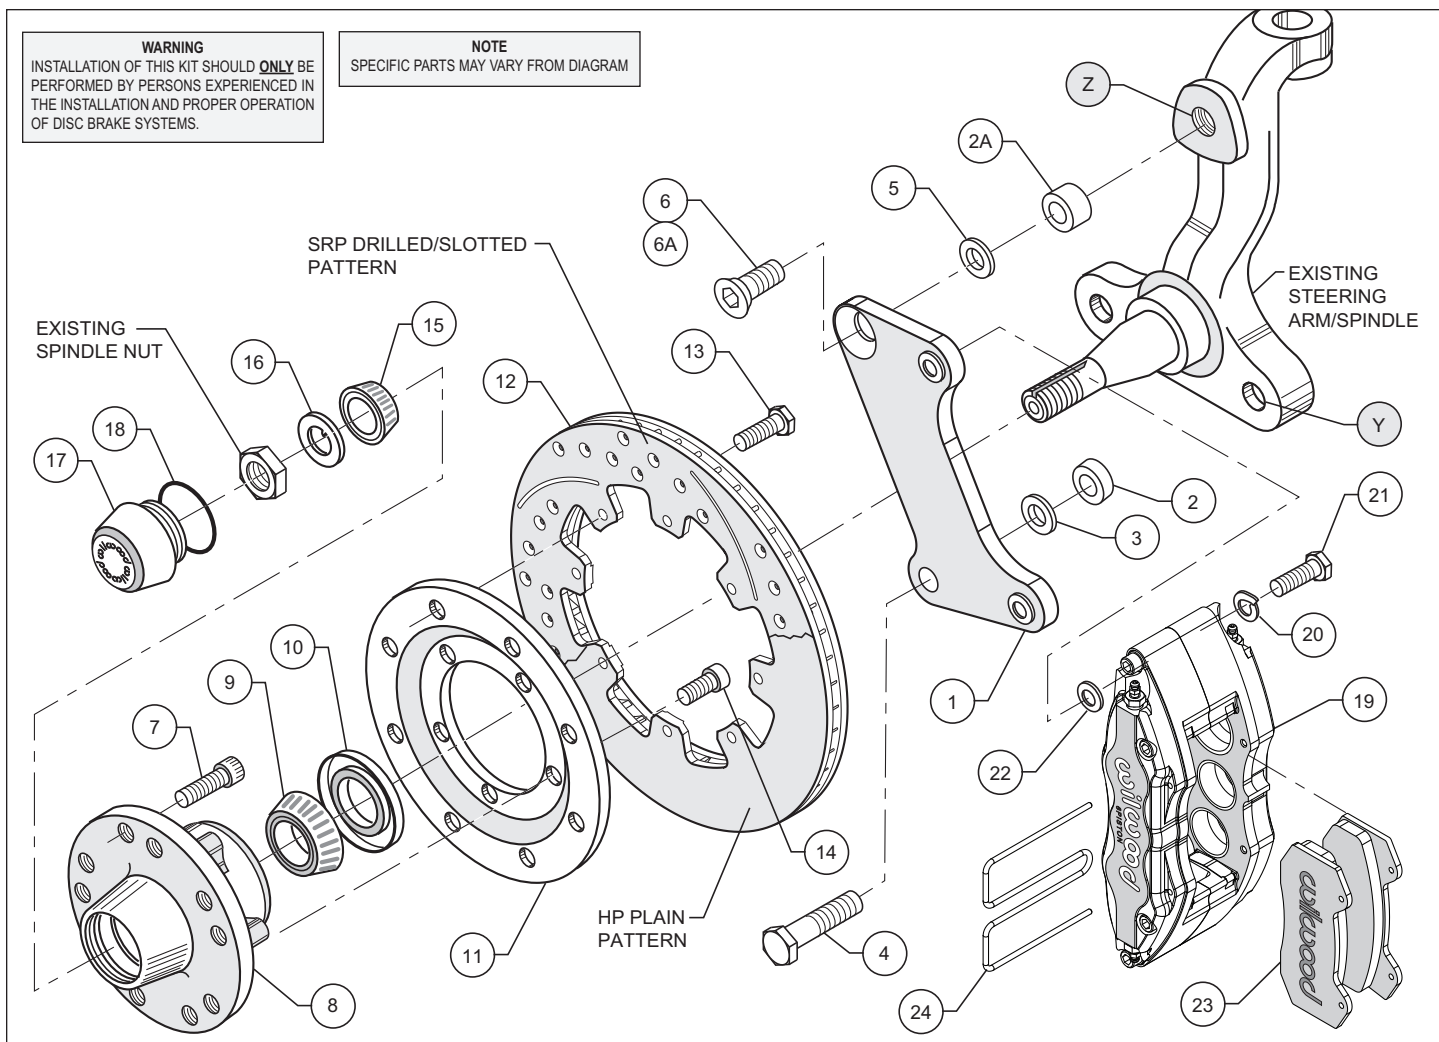
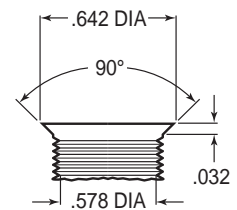
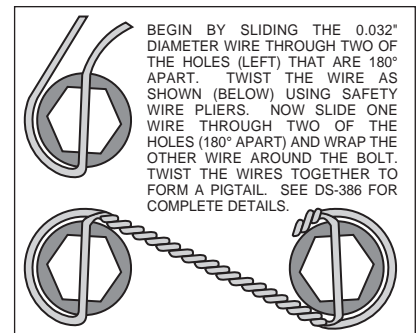

Figure 1. Typical Installation Configuration
Figure 3. Drill and Tap Detail
Figure 4. Safety Wire Diagram
•**NOTE:** 1964-66 spindles may require the following modifications (reference Figure 1 and Figure 3): Top anchor pin hole (Z) must be drilled and tapped to the dimensions as outlined in Figure 3. Bottom rear steering arm bolt hole (Y) in the spindle and steering arm must be enlarged to .50" by drilling. A 1/2-20 backing nut (not supplied in kit) will need to be acquired to torque bracket / steering arm bolt (supplied in kit).
•Apply red *Loctite*® 271 to bolt threads (4 and 6, or 6A for disc spindle application) before assembly of the caliper mounting bracket (1). Mount bracket (1) to dust face plate of spindle using the bottom bolt (4) while positioning washers (2 and 3) between bracket and spindle face, finger tighten only. Slide the upper bolt (6) through the bracket (1) and washer (5) (or, for disc brake spindle, use 6A with spacer 2A and washer 5 positioned between bracket and top hole of spindle face) and into the spindle, torque to 140 ft-lb. Torque bolts (4) to 85 ft-lb. **NOTE:** Be sure the heads of the bracket (1) insert nuts are facing outward toward the wheel.
•Install wheel studs (7) into the hub (8). Torque to 77 ft-lb. **NOTE:** There are two five lug patterns in the hub (5 x 4.50 and 5 x 4.75). Make sure of the correct hole pattern for the correct wheel application before installing studs into hub.
•Pack the large inner bearing cone (9) with high temperature disc brake bearing grease (available from your local auto parts store) and install into the backside of the hub (8).
•Install the grease seal (10) by pressing into the backside of the hub (8).
•Attach rotor adapter plate (11) to rotor (12) using bolts (13). Torque bolts (13) to 180 in-lb. Safety wire bolts (13) using standard 0.032 inch diameter stainless steel safety wire as shown in Figure 4. Please refer to Wilwood's data sheet DS-386 (available at www.wilwood.com/pdf/ds386.pdf) for complete safety wire installation instructions. **NOTE:** Dished side of adapter plate (11) should face hub (8). The mounting tabs on the rotor (12) should face toward the hub as well and line up with the holes on the adapter plate (11).
•Mount the adapter/rotor assembly (11 and 12) to the hub (8) using bolts (14). Torque bolts (14) to 25 ft-lb. Safety wire bolts (14).
•Pack the small outer bearing cone (15) with high temperature disc brake bearing grease and install into front of hub (8). Slide the hub/rotor assembly (8 and 12) with outer bearing cone (15) onto the spindle. Secure using spindle washer (16), stock adjusting nut and nut locking device. Adjust bearings per Original Equipment Manufacturer (OEM) specifications.
•Install the dust cap (17) onto the hub (8). Friction created by the o-ring (18) on the dust cap (17) keeps it from unscrewing. The O.D. of the existing spindle washer may be larger than the I.D. of the dust cap (17) not allowing it to seat against the hub face. Some grinding on the washer O.D. may be necessary to clear the I.D. of the dust cap (17).
•**NOTE:** Please reference the caution statement at the beginning of the assembly instructions. With the bleed screws pointing up, mount the caliper (19) onto the caliper bracket (1) using lock washers (20), bolts (21) and caliper spacer (22) positioned between caliper and bracket. Finger tighten. View the rotor (12) through the top opening of the caliper (19). The rotor (12) should be aligned in the center of the caliper (19). If not, adjust the caliper (20) by using 0.032 inch thick shims (22) placed between the caliper mounting bracket (1) and the caliper (19). Finger tighten and recheck alignment. Apply red *Loctite*® 271 to bolt threads (21) and torque to 30 ft-lb. Safety wire caliper bolts (21).
•Install the disc brake pads (23) and secure using cotter pin (24). Repeat procedure for the other wheel.